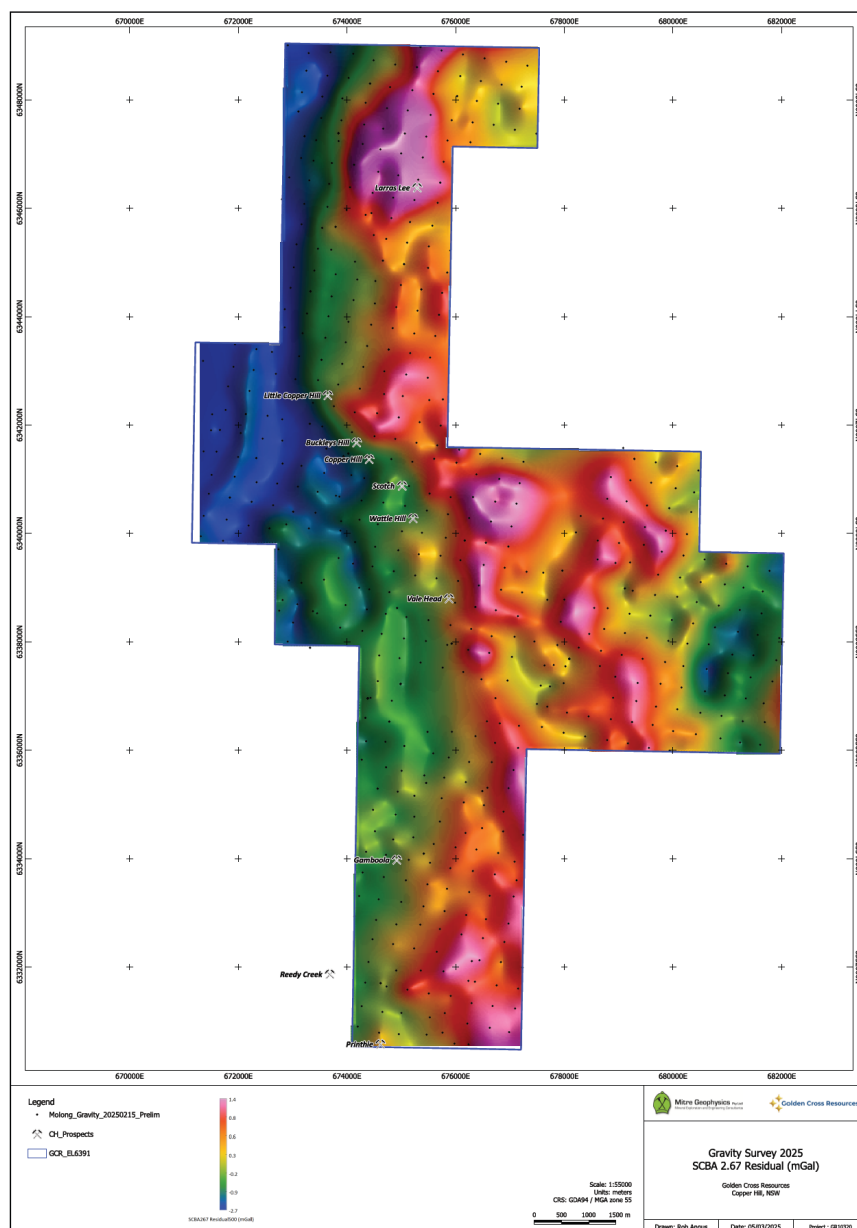

Figure 2: Residual Gravity Image
- Residual Gravity (**Figure 2**)